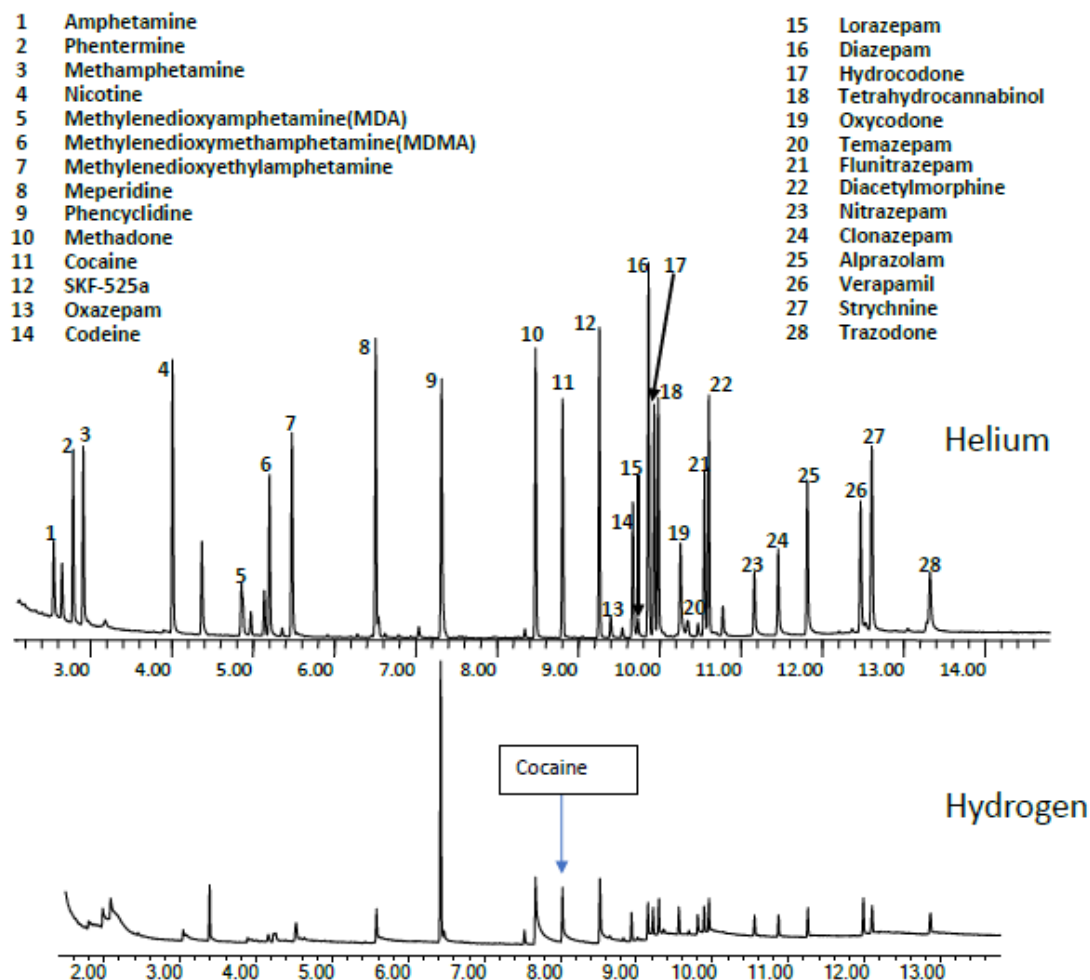
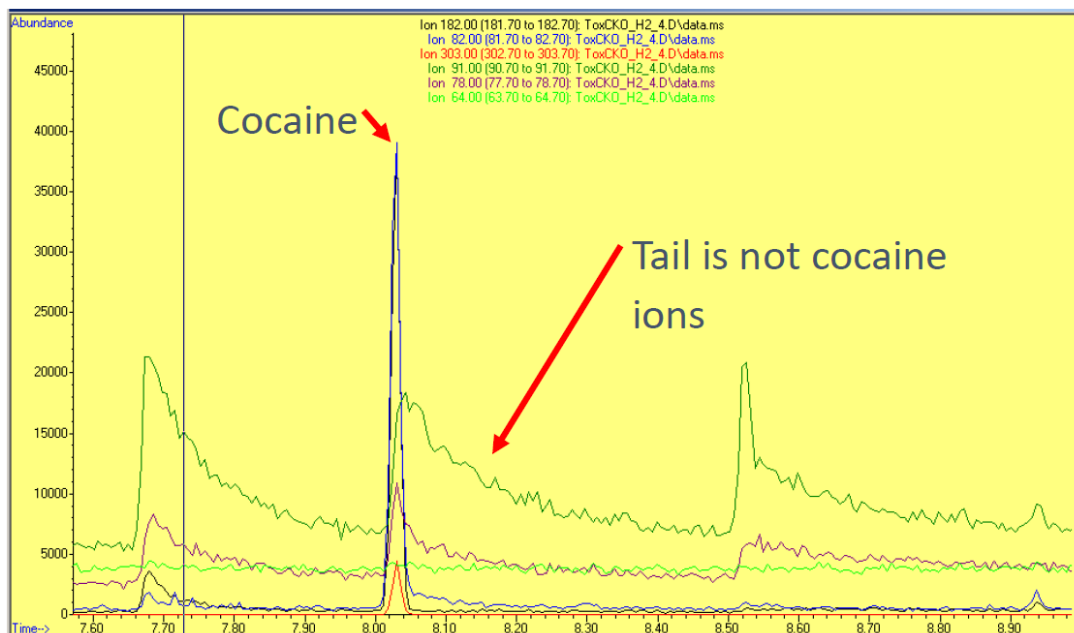

Figure 13. Drug test mix (5 ng/component) run with helium carrier gas (top) and hydrogen carrier gas shortly after initial startup (bottom).
Figure 14. EICs from cocaine peak in **Figure 13** (bottom) with hydrogen carrier gas.
The third problem, significant tailing for many compounds, is shown in **Figure 13**. The top chromatogram is the TIC of a mixture of underivatized drugs at 5 ng/compound acquired with helium carrier gas. Some of the compounds exhibit tailing due to their polar nature, but most have acceptable peak shapes.
**Figure 14** shows the extracted ion chromatograms (EIC) for the principal cocaine ions at  $m/z$  182 (black), 82 (blue), and 303 (red). Note they have excellent peak shape. The tails are made up of ions unrelated to cocaine, with  $m/z$  91 (green) being the most prominent.
The hydrogen carrier chromatograms in **Figure 13** and **Figure 14** were acquired with the 6-mm extractor lens. This tailing effect is more pronounced with the 6-mm than with the 9-mm lens. The 6-mm was used here to more clearly demonstrate the problem, but the 9-mm is preferred.